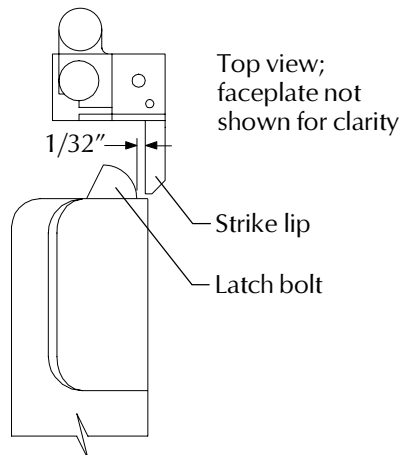

Figure 2
5. Install strike with two #12-24 screws. Make sure clearance between latch bolt and strike lip is 1/32" (Figure 2).